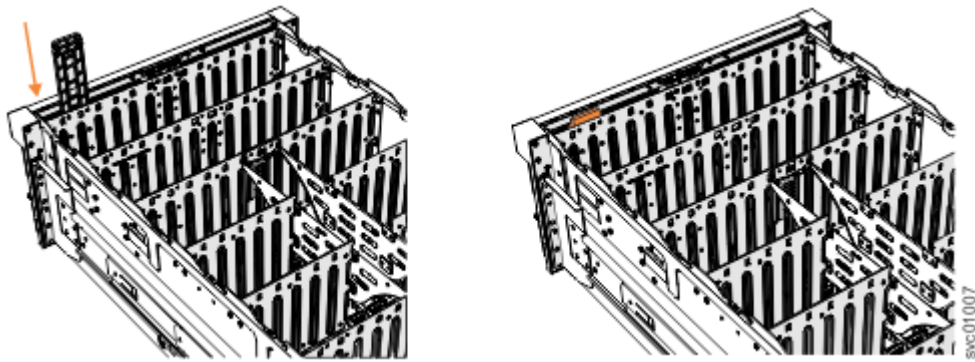

Figure 120. Installing the display panel assembly
2. Carefully align the display panel assembly in the slot at the front of the expansion enclosure, as shown in Figure 120 on page 108.